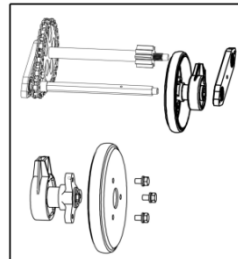

Figure 27
5. Remove the three screws which secure the friction wheel's side plates together,change the rubber ring only. See Figure 27.